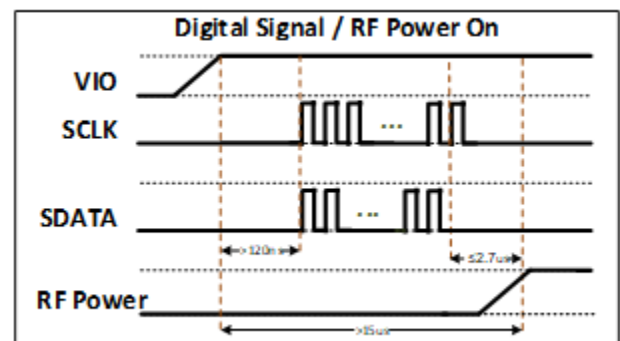

Figure 2 Digital Signal / RF Power-On Detail
2. VIO must be applied for a minimum of 120 ns before sending SDATA/SCLK to ensure correct data transmission. (see figure 2)
3. VIO must be applied for a minimum of 15  $\mu$ s before applying RF power. (see figure 2)
4. Wait a minimum of 2.7  $\mu$ s after RFFE bus is idle to apply an RF signal. (see figure 2)